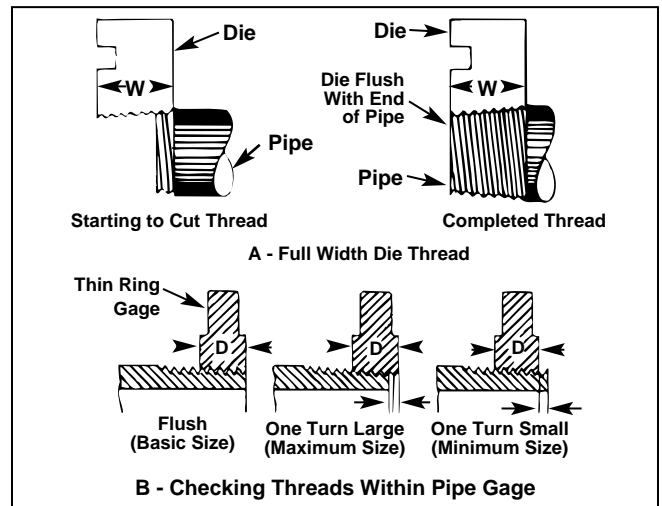

Figure 12 – Checking Thread Length
(Figure 12)
1. Thread is cut to proper length when end of pipe is flush with edge of dies (Figure 12).
2. Die head is adjustable to obtain proper thread diameter. If possible, threads should be checked with a thread ring gage (Figure 12). A proper thread is cut when end of pipe is plus or minus one turn of being flush with face of ring gage.